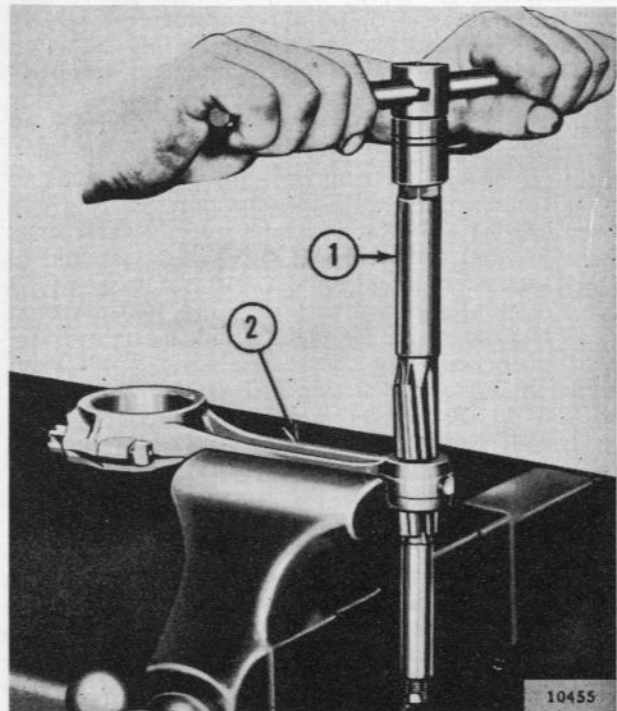

FIG. 92—REAMING CONNECTING ROD BUSHING
**c.** After checking the piston pin fit in the piston, check its fit in the connecting rod bushing. The pin should just slip through the bushing under its own weight. If the pin is too tight, ream the inside diameter of the bushing with piston pin reamer DD-82-2 as shown in Fig. 92 to .8597" to .8599" [21,836 a 21,841 mm.] for a standard pin or, if an oversize pin is used, ream the bushing .003" to .005" [0,0762 a 0,127 mm.] oversize. If the pin is too loose, install a new bushing of proper size. The new bushing must be installed with the oil hole aligned with the oil hole in the connecting rod.